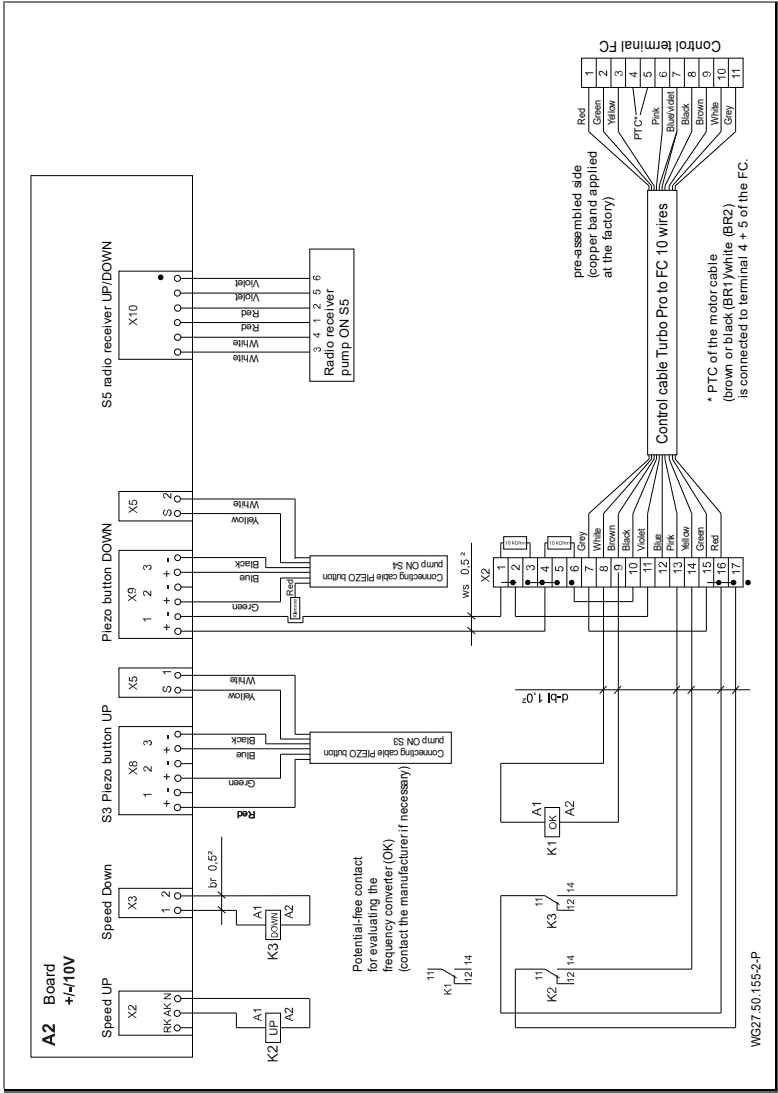

Fig. 19
14. The wires for the PTC (brown or black (BR1)/white (BR2)) must be connected according to the circuit diagram. See "Fig. 19" on page 34